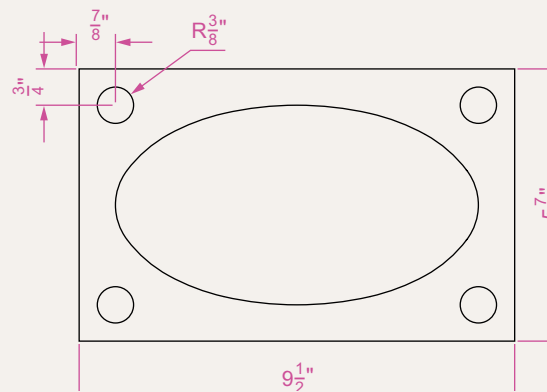

Fig. 3.47 Exercise 4
- With the **Line**, **Circle** and **Ellipse** tools, construct Fig. 3.47.